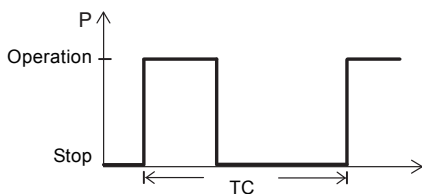

Fig. 9 S3 operation
S3 operation is a series of identical duty cycles (TC) each with a constant load for a period, followed by a rest period. Thermal equilibrium is not reached during the cycle. See fig. 9.